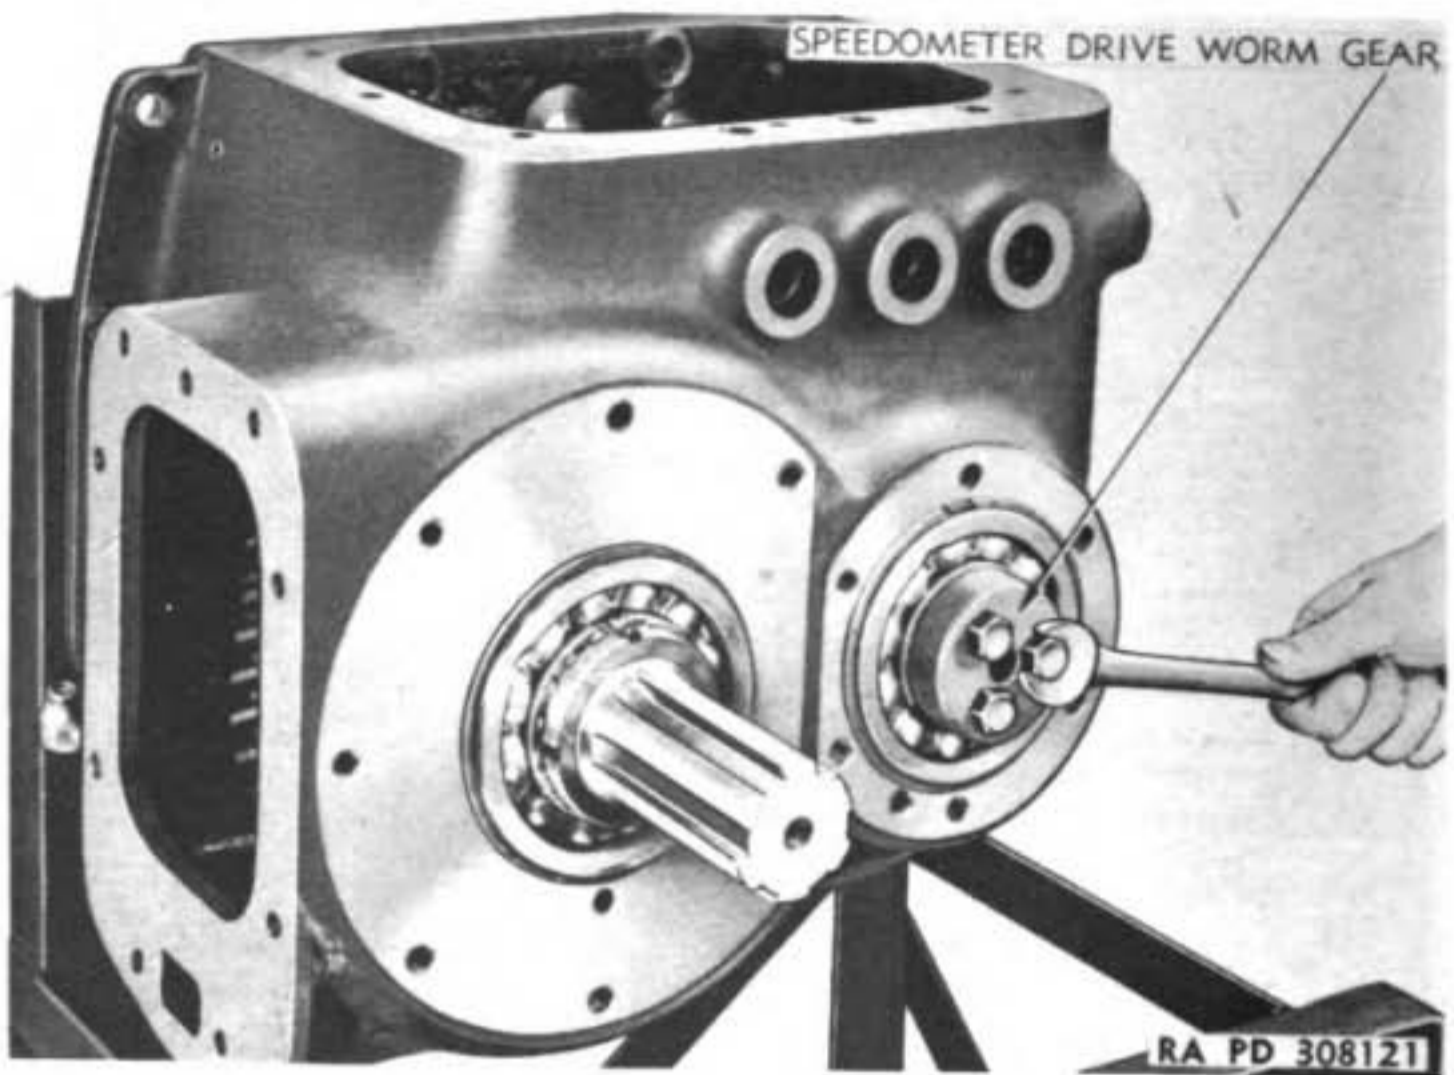
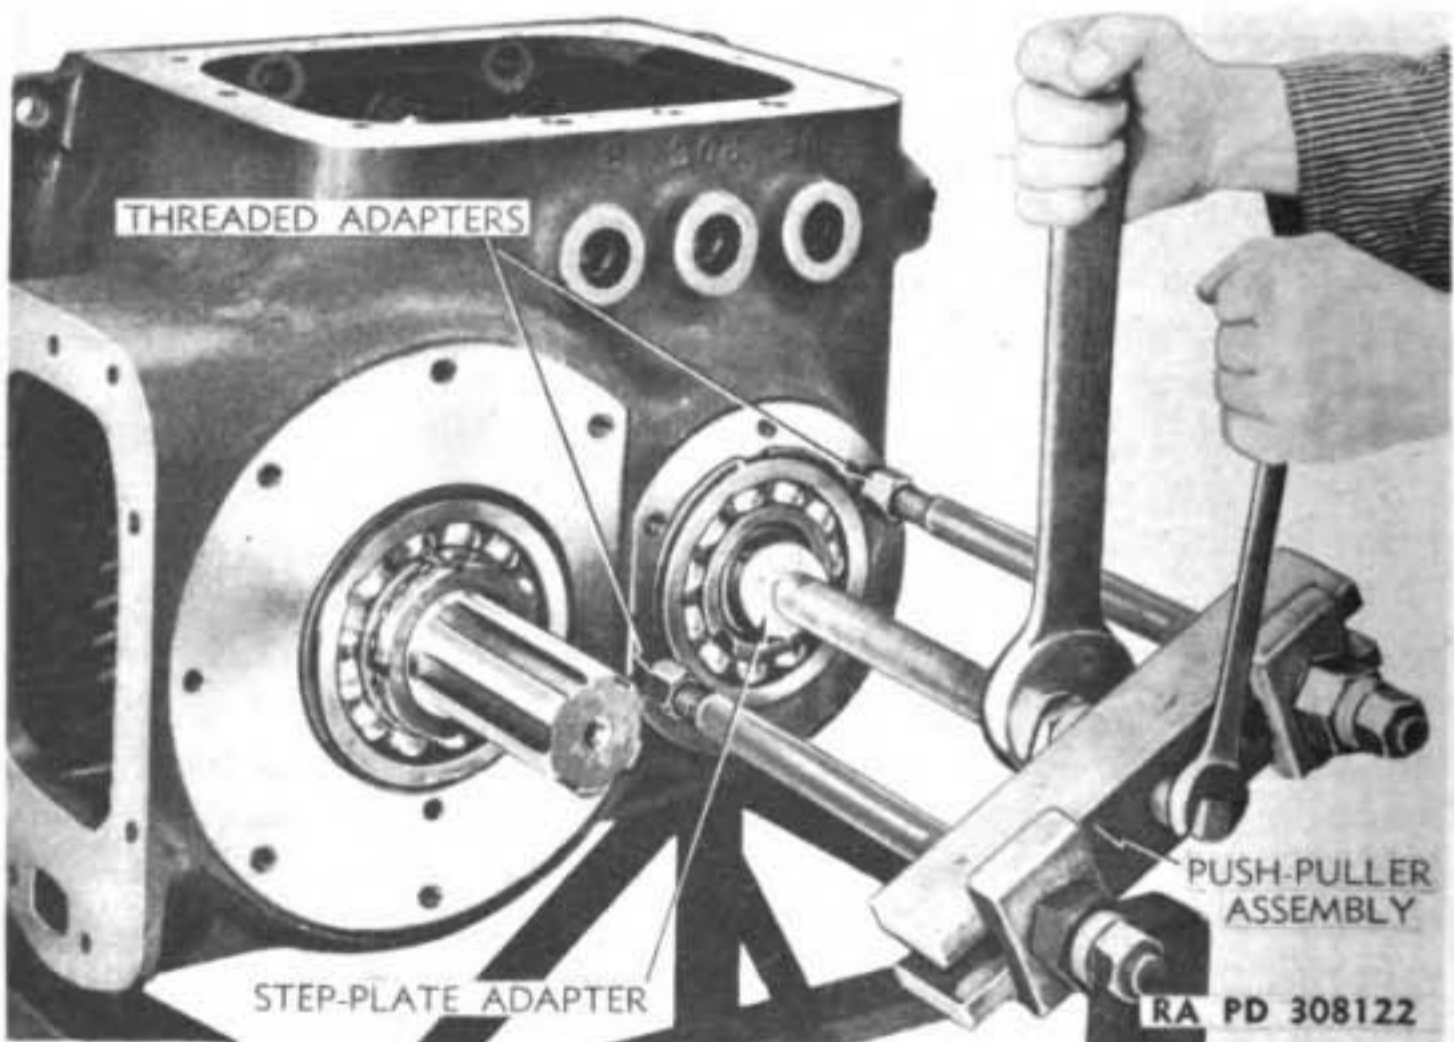

Figure 21 – Removing Speedometer Drive Worm Gear
Figure 22 – Pressing Pinion Shaft Out of Housing, Using Puller (41-P-2905-60)
b. Remove Bevel Pinion Shaft and Gears. Cut lock wire and remove the three cap screws from speedometer drive worm gear (fig. 21). Slip gear from end of shaft. Using puller (41-P-2905-60) mounted as shown in figure 22, press on bevel pinion shaft until it has been moved approximately three-fourths inch. Reach inside case and slide high range gear against rear of case. Slide splined washer toward high range gear. This will free a split lock ring so it can be removed from shaft (fig. 23). Push bevel pinion shaft nearly out of rear bearing hole in case. Slide range shifter gear into mesh with high range gear, then slide both against rear of case. Install the special remover and replacer (41-R-2378-59) under snap ring